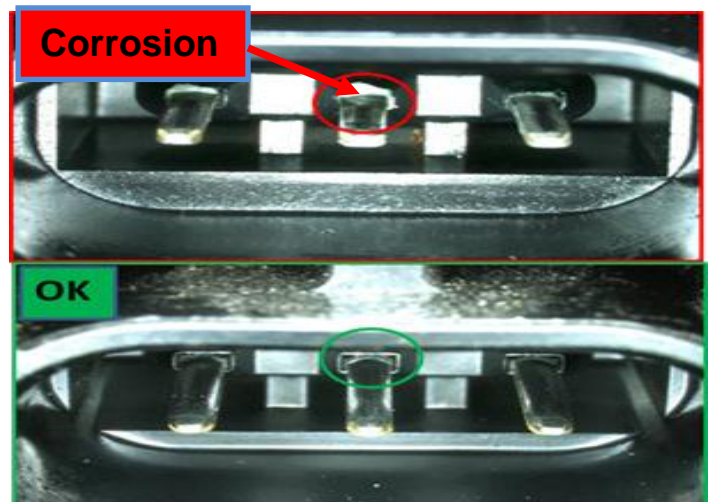

Figure 2
- Is corrosion found on output speed sensor terminals? (see Figure 2)